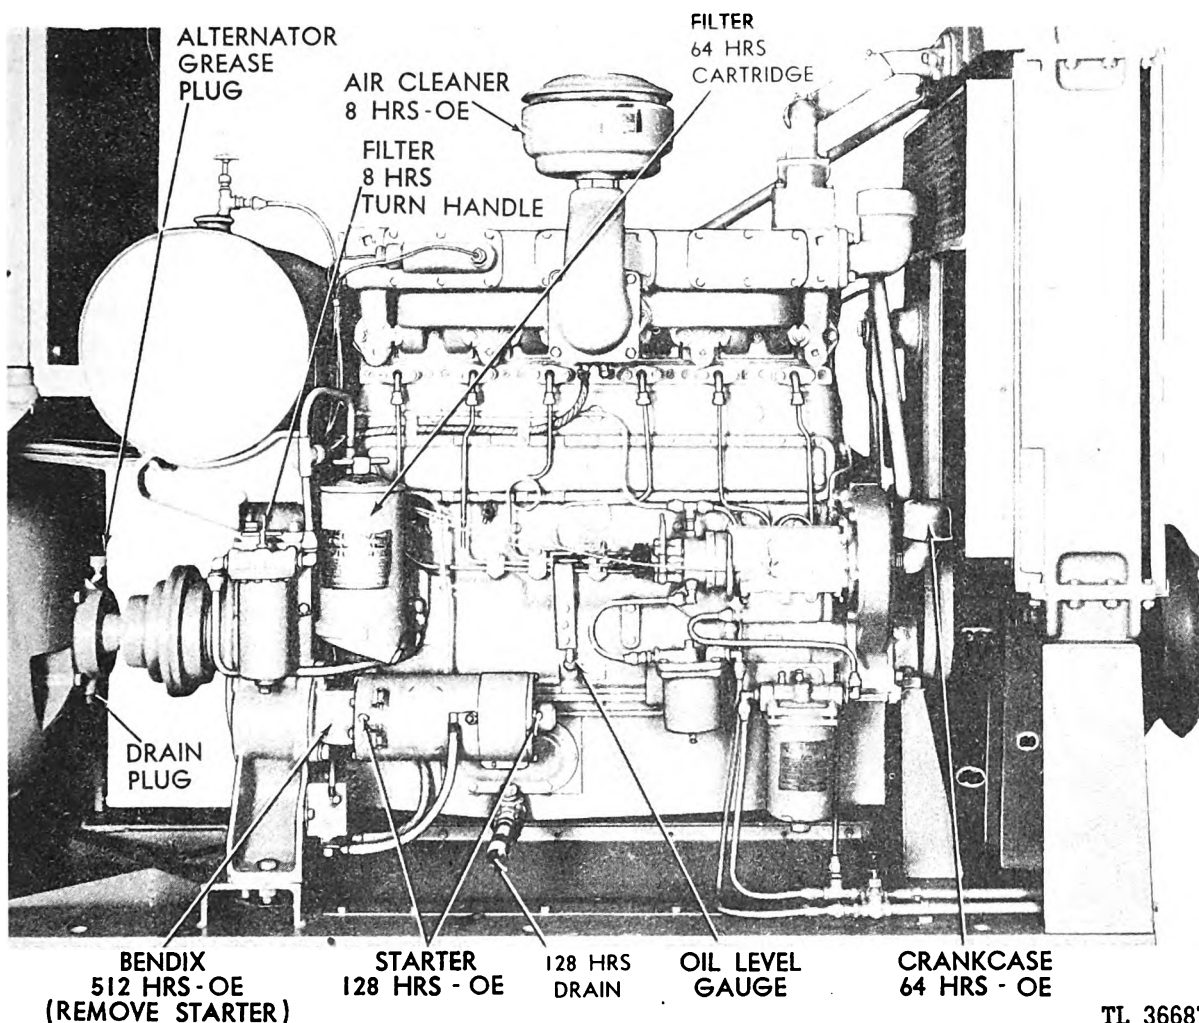
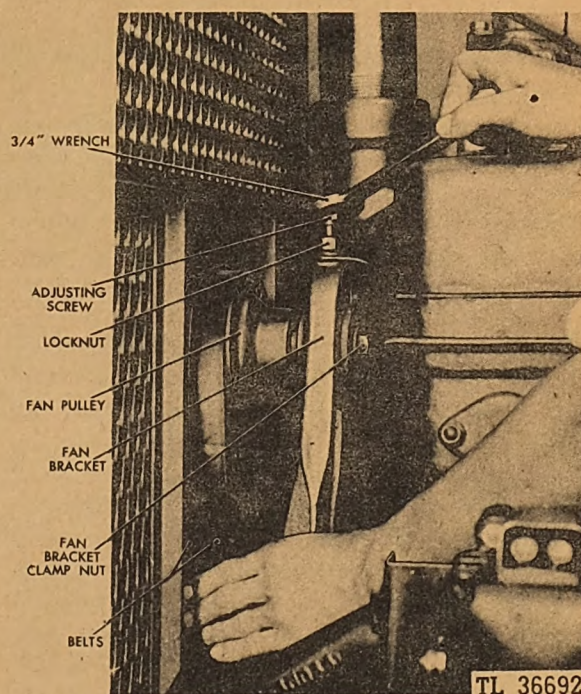

Fig. 35. Points of Lubrication
Fig. 40. Adjusting Fan Belt Tension
| After Every 256 Hours of Operation   | <ol style="list-style-type: none"> <li>1. Check Battery Generator.</li> <li>2. Check Starting Motor.</li> <li>3. Check Voltage Regulator (Battery).</li> <li>4. Check Tappet Clearance.</li> <li>5. Check Alternator.</li> <li>6. Check Exciter.</li> <li>7. Drain and Bleed Fuel Filter Sumps.</li> <li>8. Clean Air Filter.</li> <li>9. Renew Oil Filter (DeLuxe).</li> <li>10. Wash Crankcase Breather.</li> </ol> | Par. 40 (1)Par. 40 (2)Par. 76dPar. 40 (4)Par. 40 (5), (6)Par. 40 (5), (7), (8)Pars. 78, 79See Figure 35Par. 39 (1)Par. 39 (3) |
| After Every 512 Hours of Operation   | <ol style="list-style-type: none"> <li>1. Clean Primary Fuel Filter.</li> <li>2. Install Element (Secondary Fuel Filter).</li> <li>3. Oil Bendix Drive.</li> <li>4. Lubricate Fan Bearing.</li> </ol>   | Par. 41 (1)Par. 41 (2)Par. 41 (3)See Figure 35  |
(2) Drain sludge from DeLuxe oil filter while hot.
(3) Lubricate battery charging generator. (See Figure 35.)
(4) Lubricate rope starter shaft and stop and throttle control cables with engine oil.
(5) Drain, clean, and refill air cleaner oil cup.
**39. Every 128 Hours of Operation.** (1) Drain crankcase while oil is hot. Refill with 8 gallons of new oil of the recommended viscosity. (See Figure 35.) Run engine a few minutes, then check oil level.
(3) Lubricate starting motor bearings. (See Figure 35.)
(4) Check the specific gravity of each battery cell with a hydrometer. A reading of 1.250 to 1.285 indicates approximately fully charged; 1.230, half charged; and 1.150, dead. Never take a reading shortly after adding water.
(5) Remove the crankcase breather and filler cover and wash the screen in gasoline. Next dip the screen in light engine oil and let it drain before installing it on the engine.
(6) Check the fan belt tension. It should be possible to pull the belts out of line from  $\frac{1}{2}$  to  $\frac{3}{4}$  inch without excessive pulling. If it is necessary to adjust the fan belt tension, loosen the fan adjusting locknut as shown in Figure 40, and adjust the fan adjusting screws so that the fan belt will be at its proper tension.
**40. Every 256 Hours of Operation.** (1) Inspect the commutator and brushes of the battery charging generator by removing the cover band. Check for dirt and wear and also for high mica (the insulation material between the high bars) and for the commutator being